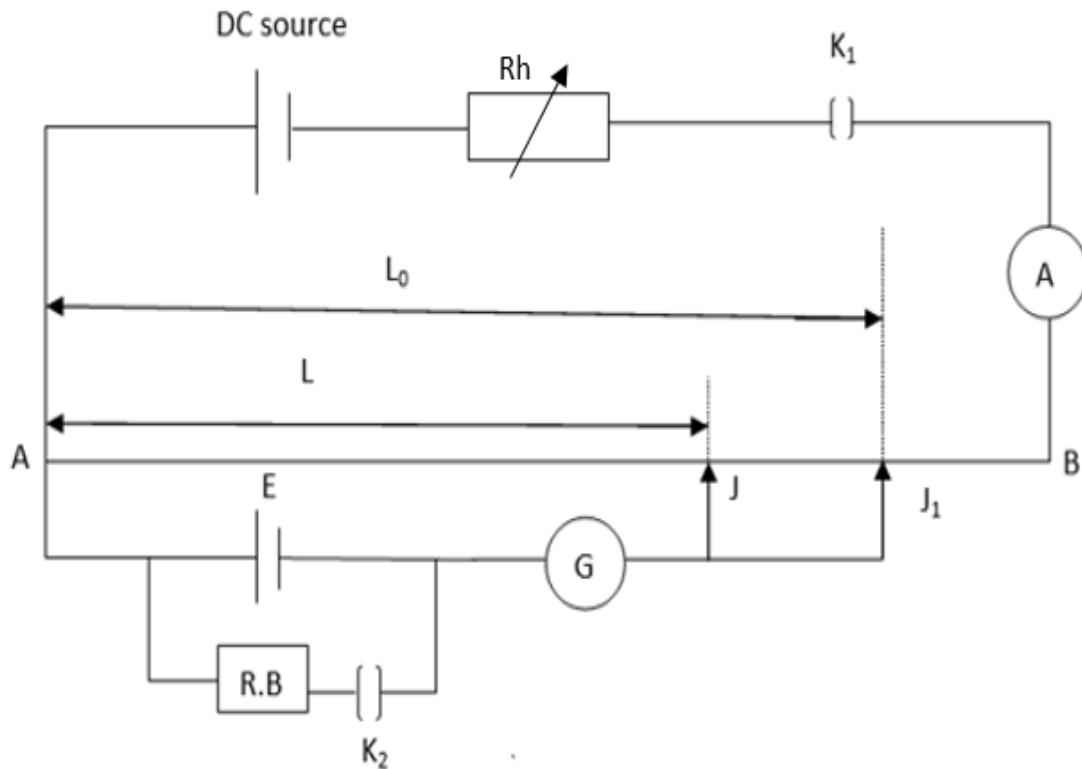

Figure 2
- Step 3. Arrange the apparatus on the table and make connections as shown in Figure 2.